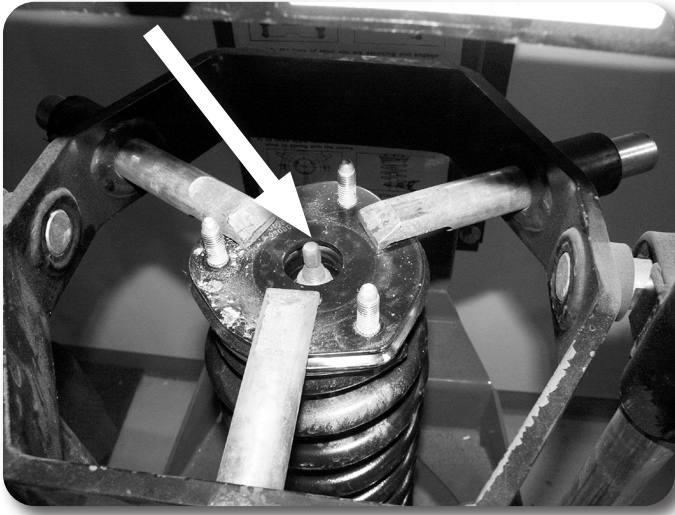

Figure 4
12. Using an appropriate strut compressor, compress the coil spring and remove the upper strut nut. Remove the strut, strut cap and upper coil seat from the coil spring. (Figure 4)